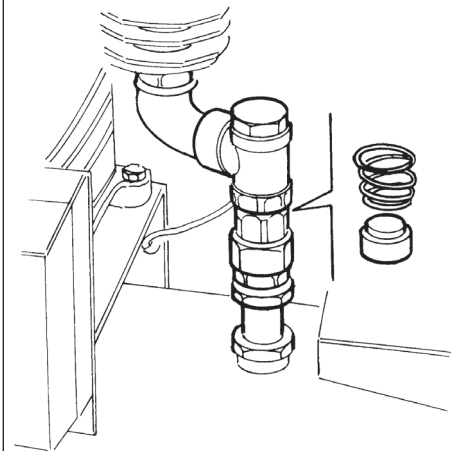

fig. 14
- control the check valve and clean the single components (*fig. 14*).